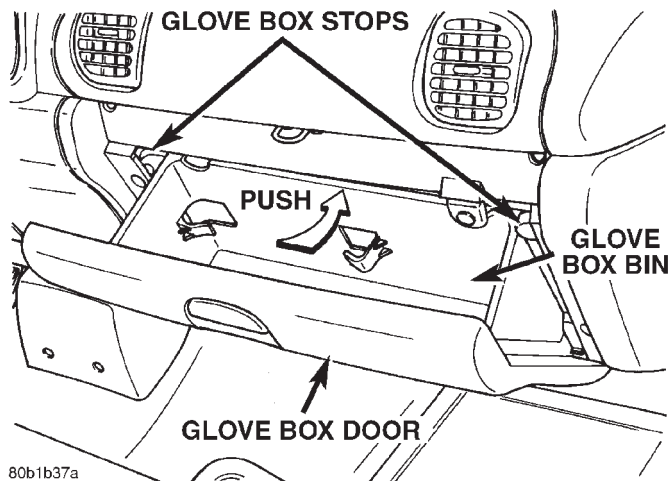

Fig. 19 Glove Box Remove/Install
(1) Disconnect and isolate the battery negative cable.
(2) Open the glove box.
(3) While securing the glove box door with one hand, push the center of the glove box bin towards the front of the vehicle (Fig. 19). Flex the glove box bin far enough so that the glove box stops on each side of the bin will clear the sides of the instrument panel glove box opening.